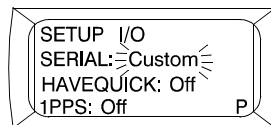

Figure 19. Custom Display
3. Press the up arrow key (figure 1, item 2) or down arrow key (figure 1, item 3) until Custom is flashing for SERIAL (figure 19).